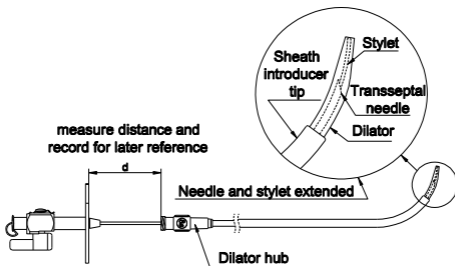

Fig.2
- Measurement 1. Withdraw the needle assembly until the tip of the stylet is just within the tip of the dilator. Measure the distance from the pointer flange and the dilator hub, Record this measurement for use during the procedure. (See Fig. 2)